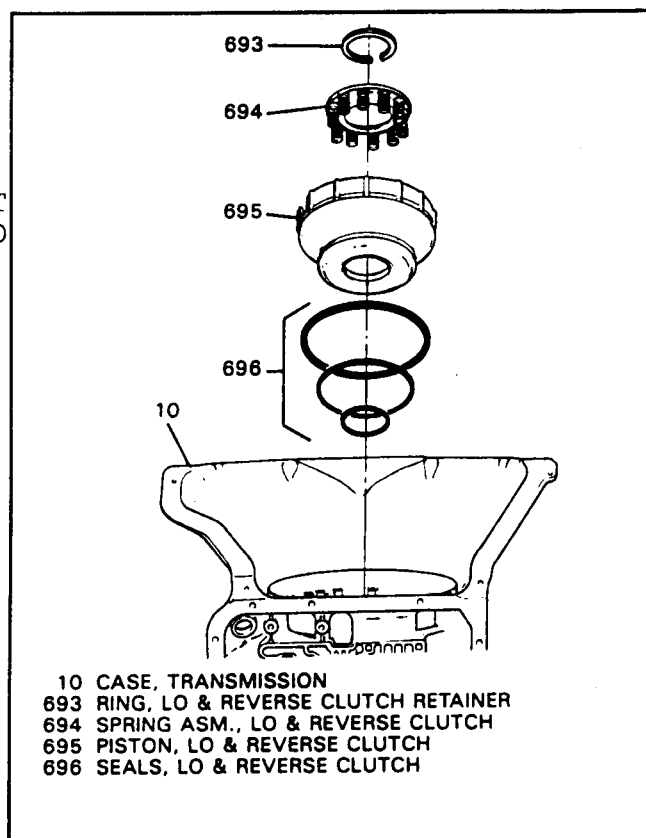

Figure 82
5. Install return spring assembly on top of the low/reverse piston (Figure 82).